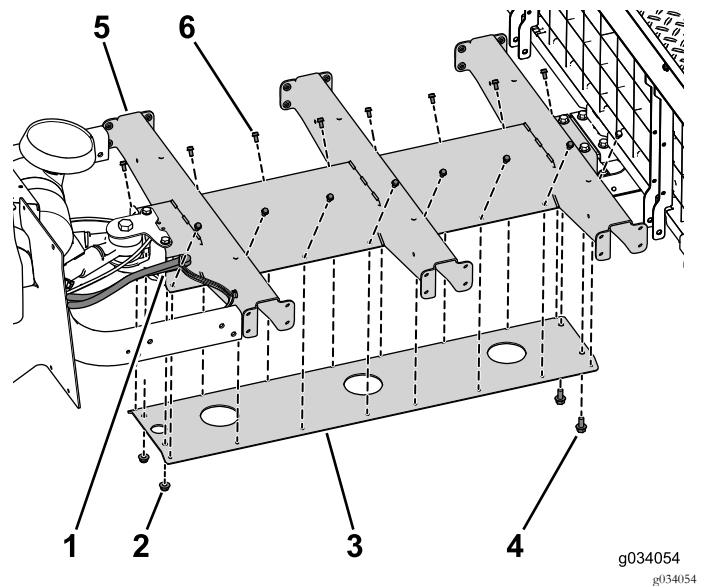

Figure 30
1. Use the 4 bolts (5/16 x 3/4 inch) to loosely install the platform support to the center channel (Figure 30).